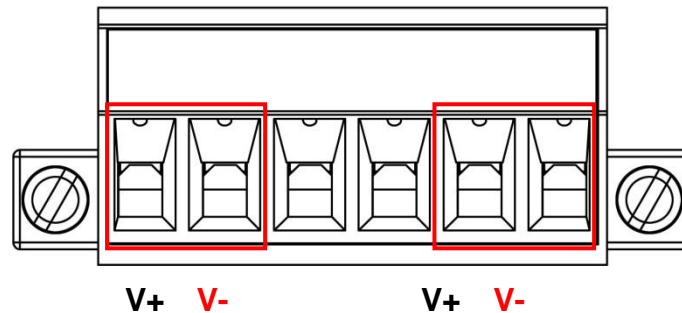

Figure-6: Terminal Block Front View for Power1 & Power2 Contact
1. Insert the positive and negative wires into the **PWR1 (V+, V-)** and **PWR2 (V+, V-)** contacts on the terminal block connector as shown in **Figure-6**.